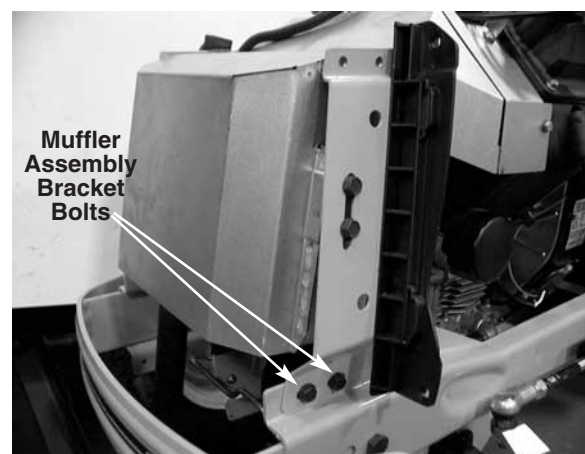

FIGURE 4.
12. Remove all four muffler assembly bracket bolts from the tractor frame using a 1/2" socket. See figure 4.
NOTE: Move the muffler assembly side to side. This will allow the muffler to separate from the exhaust manifolds. See figure 4.